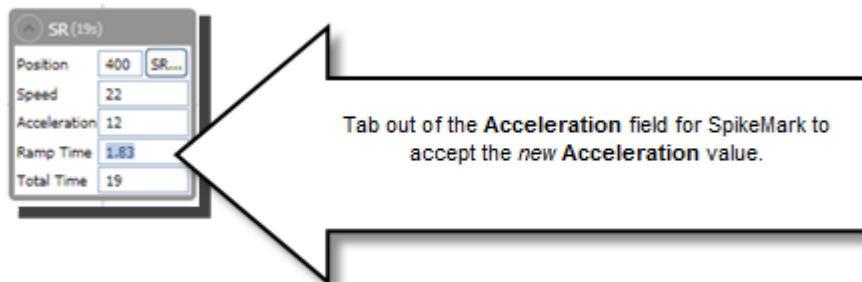

Figure 222
3. Enter in a new **Acceleration** value and press the **Tab** key. (Figure 222).